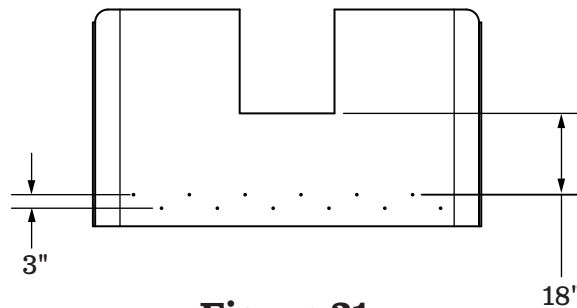

Figure 21
- 1) **Figure 21.** When hauling asphalt an alternate pattern using (12) 3/8" elevator bolts or 3/8" self-tapping screws is acceptable. Check location of cross members and lay out and mark a line a minimum distance of 18" from behind the doghouse and another row 3" further based on type of screw or bolt used. Fasteners must be staggered and a minimum 6" apart and 3" from the first score line.